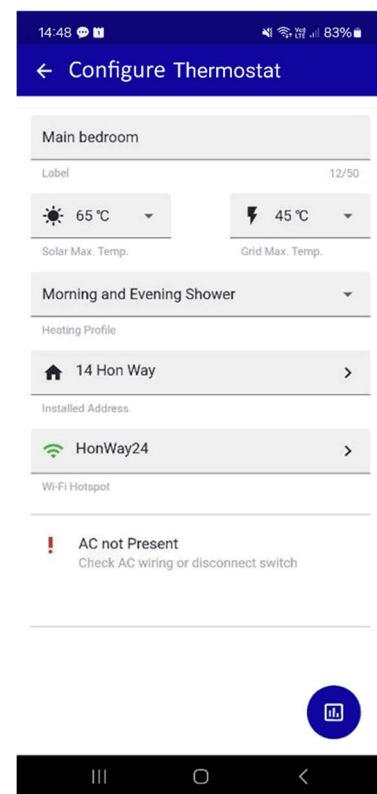

Figure 4.15 Heating settings
46. The app should take you back to the **“Configure Thermostat”** screen (**Figure 4.15**).
50. If there are any problems with the installation, an alarm will display below the configuration settings, indicated by a red exclamation mark (!) (Figure 4.15). See Appendix A for a list of alarms and how to resolve them (if needed).